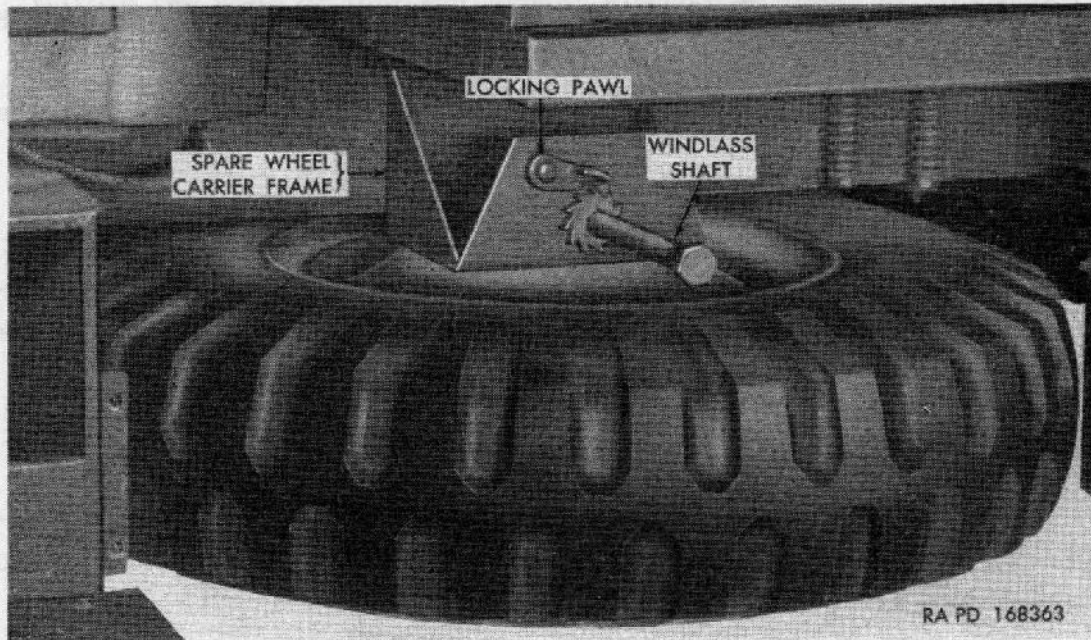

Figure 149. Spare wheel carrier—M34 and M36.
- (1) *Description* (fig. 149). The spare wheel carrier is mounted on left-side of frame, below front corner of body. The wheel is suspended in horizontal position below the carrier. Carrier frame is equipped with a hand windlass, and $\frac{1}{4}$ -inch wire rope with pickup plate for wheel support. Ratchet on windlass shaft engages locking pawl for safety in raising or lowering wheels.